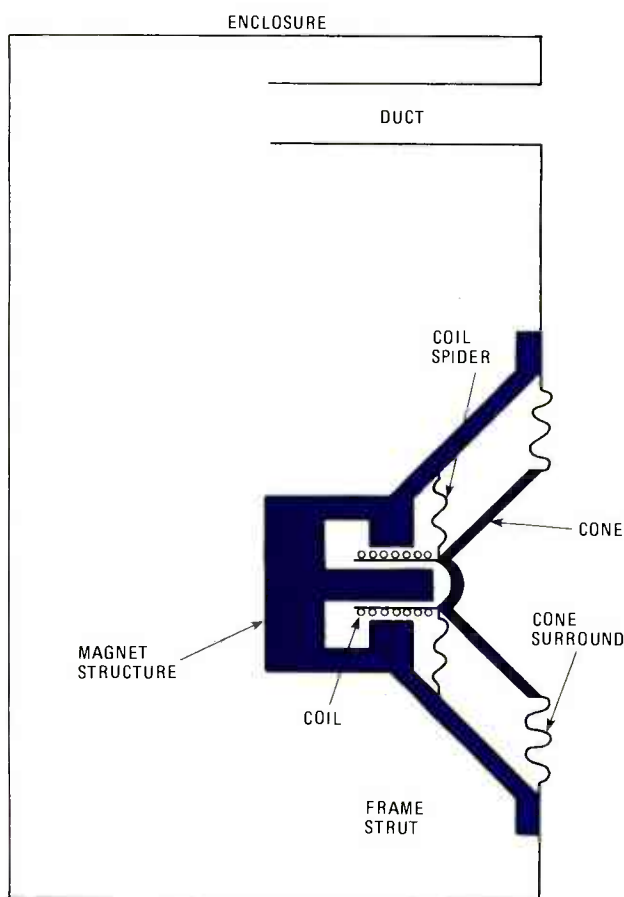

FIG. 1—CROSS SECTION of a dynamic woofer mounted in a ducted port enclosure.
■The most-complex system is the ducted port enclosure. The other systems can be thought of as simplifications of this type. Figure 1 shows a cross section of a dynamic loudspeaker mounted in a ducted port enclosure. When driven at low frequencies, the behaviour of this system is simpler than it is at higher frequencies. The cone moves as a single, rigid mass. All the air inside the duct moves in
FIG 2.—MECHANICAL SYSTEM, equivalent at low frequencies, to the speaker shown in Fig. 1. Cone mass and the mass of air are assumed to move only in one direction, indicated by arrows. Coil applies oscillatory force to cone in this direction. Dampers are sources of mechanical resistance. One end of each damper and mounting spring has a fixed point of attachment.
FIG. 3—ELECTRICAL CIRCUIT analogous to systems in Figs. 1 and 2. Corresponding parameters are: R1 = Coil resistance, C1 = Mass of cone and co-moving air, L1 = Compliance of cone mountings, G2 = Mechanical resistance of cone mountings, G3 = Radiation resistance of cone, L2 = Compliance of enclosure volume, RP = Port (duct) radius, RS = Speaker radius, C2 = Mass of air in duct and co-moving air, G4 = Mechanical resistance, G5 = Radiation resistance of duct.